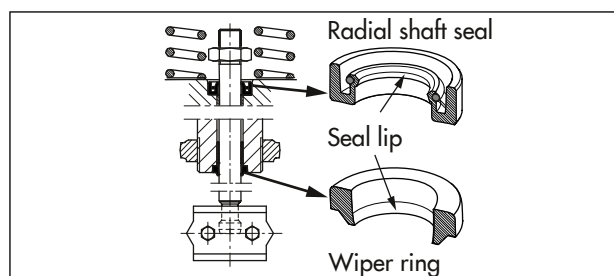

Fig. 26: Aligning the radial shaft seal and wiper ring
6. Use a suitable tool to mount the radial shaft seal. Observe the correct alignment of the radial shaft seal (see Fig. 26).
7. Use a suitable tool to mount the radial shaft seal. Observe the correct alignment of the radial shaft seal (see Fig. 26).